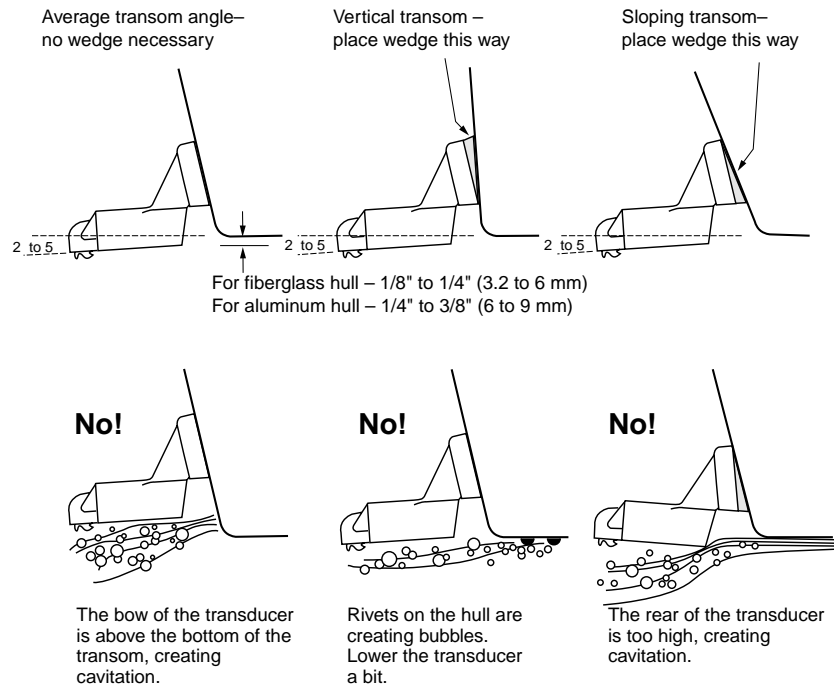

Fig. 2-5
1. On a boat with a fiberglass hull, the leading edge of the transducer should extend 1/8" (3.2 mm) to 1/4" (6 mm) below the bottom edge of the hull. See Fig. 2-5. On an aluminum hull, the transducer should extend a bit more – 1/4" (6 mm) to 3/8" (9 mm). If the boat will be operated at high speeds, the transducer may be mounted closer to the centerline of the hull.
7. Move the bracket up or down so that the leading edge of the transducer has the clearance shown in Fig. 2-5.